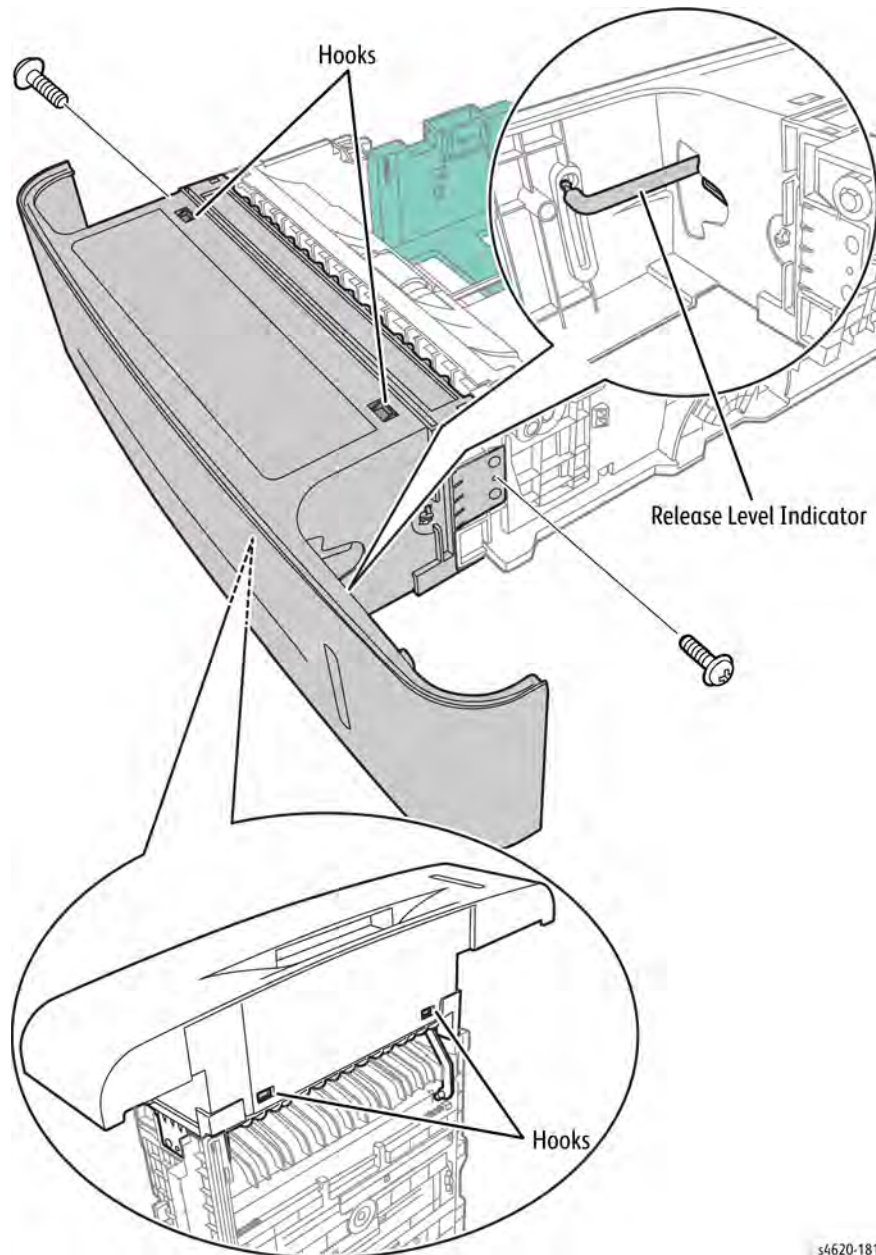

Figure 1 Remove the Tray 3 Front Cover
3. Release the media level indicator from the opening and remove the cover, Figure 1